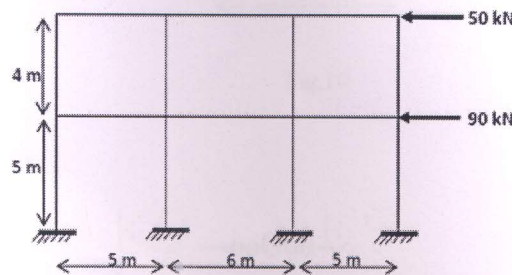

Fig.6
7. Using portal method, analyse the frame shown in Fig.6. Draw BMD. [10]